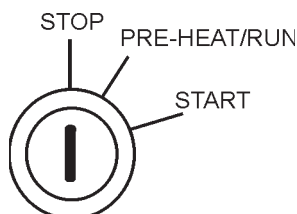

Figure 55. Ignition Switch (Off Position)
4. Place the ignition switch (Figure 55) in the **STOP** position, remove the key and store in a safe place.
2. Turn the ignition switch key to the **STOP** position (Figure 55).